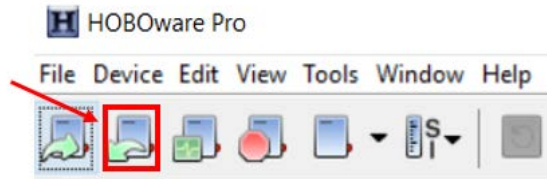

Figure A.4.14: The HOBOWare readout button.
3. Click the readout button on the top menu as shown on Figure A.4.14.